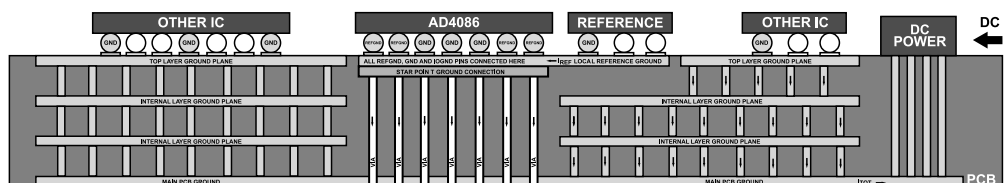

Figure 104. Recommended PCB Ground Planes Layout
- ▶ See Figure 104 for the side view cross-section of the PCB board showing the ground planes distribution . Note that Figure 104 only shows the ground planes but does not including the signal tracks.